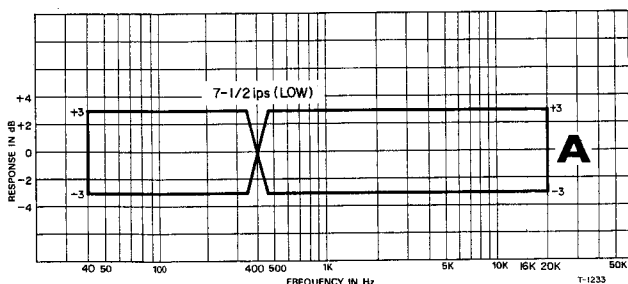

Fig. 8-13 Frequency Response (A) - OVERALL -
7. Apply signal swept from 40 Hz to 20 kHz, -18 dB (97.5 mV) to the LINE IN jacks and while recording, monitor the Tape signal and adjust equalization REC EQ L301/303 for reading within the response limits charts. See Fig.8-13(A) below.